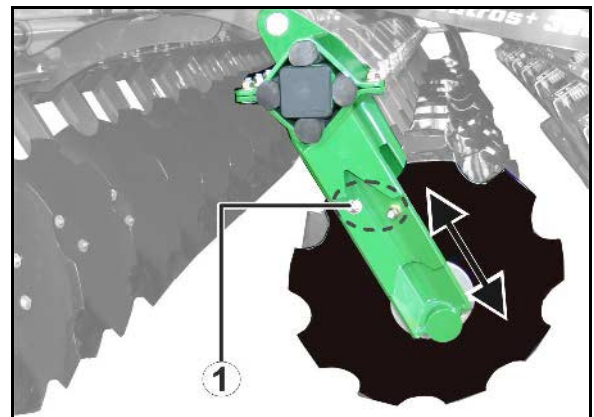

Fig. 50
- (1) Cutting edge 1st disc row
- (2) Cutting edge 2nd disc row
- **Fig. 50:**